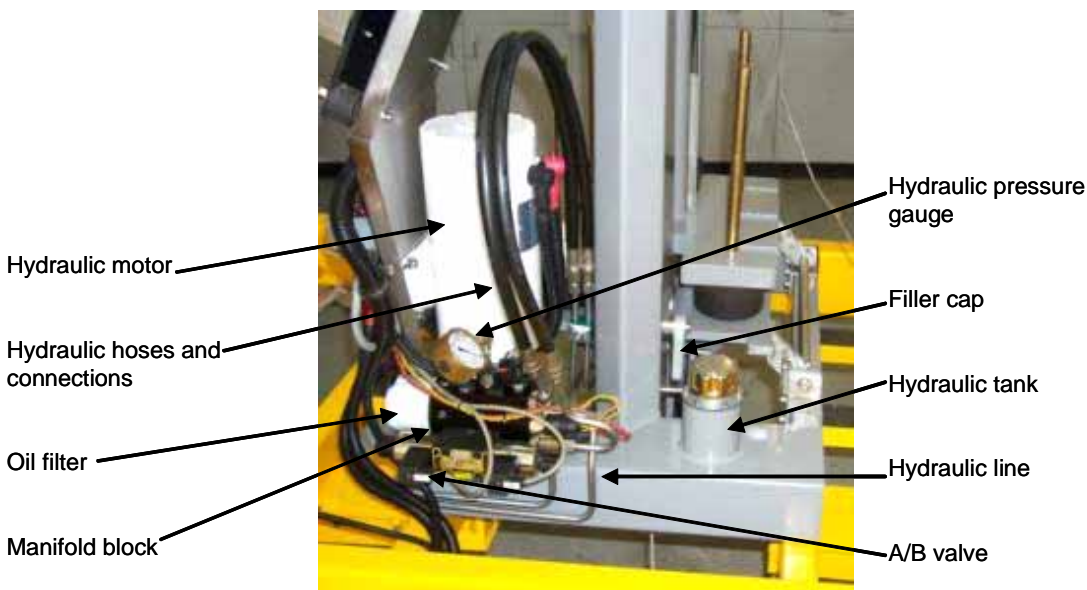

Figure 40. Hydraulic pump, motor, and fluid tank.
- A hydraulic pump (figures 40 and 41) including an adjustable excess pressure valve operated by:
- A 12 volt (V) direct current motor.
The hydraulic pump is mounted to the top of the hydraulic fluid tank (figures 40 and 41). A single bolt, which runs through the bottom of the tank, holds the pump in place. An O-ring is used to seal the pump to the tank. The pump has proven very reliable. Yearly, remove the hydraulic motor and lubricate the drive coupler with high quality moly-type grease. The only other routine monthly maintenance needed are changing oil and filter, tightening motor to pump bolts, and checking for excess pressure and adjusting if necessary (as explained in the Dynatest Owner’s Manual). A drain plug for replacing or adjusting hydraulic fluid is located on the bottom of the hydraulic tank.